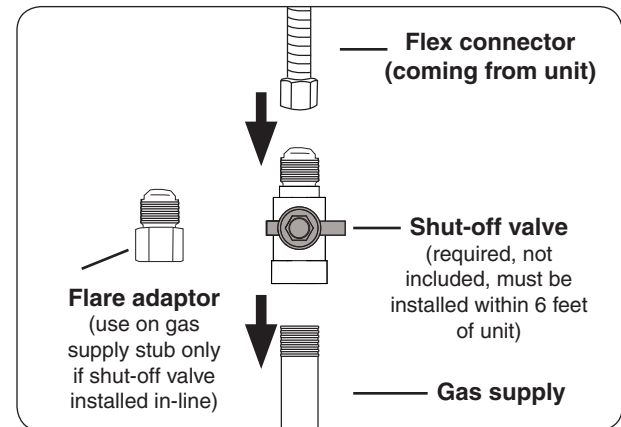

Fig. 18-3 Connecting to a gas line
- Connect the flex connector to the shut-off valve (see Fig. 18-3). Tighten securely.
- Install the supplied flare adaptor to the gas supply using a pipe joint compound resistant to all gasses (see Fig. 18-3). Tighten securely.
- Connect the flex connector to the flare adaptor (see Fig. 18-3). Tighten securely.